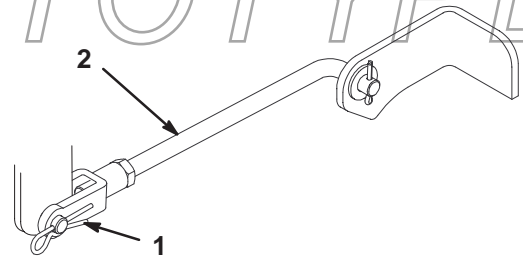

Figure 45
3. Remove the hairpin cotter and clevis pin from the front trunion yokes (Fig. 45).
- Attach the front trunion rods to the tractor with the clevis pins and hairpin cotters (Fig. 45).